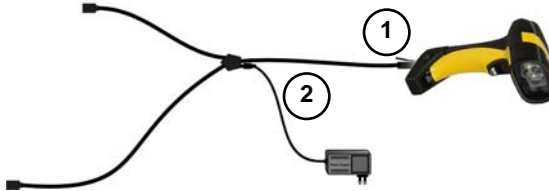

Figure 4 – Reader Wedge Connections
1. Make all the PowerScan® PD8530 reader connections as shown in Figure 4: